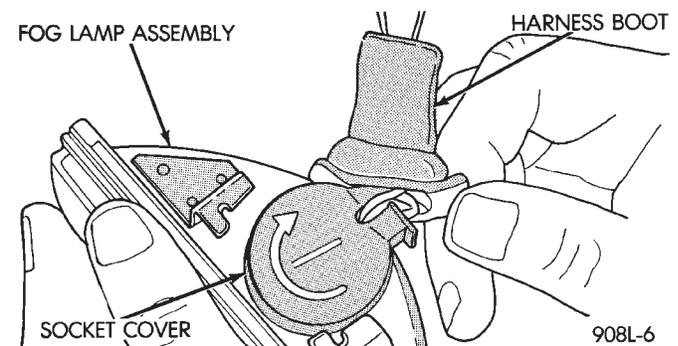

Fig. 9 Wire Boot
- (4) Separate the harness boot from the socket cover and slide the boot back to expose the one wire connector (Fig. 9). Disconnect the wire connector.